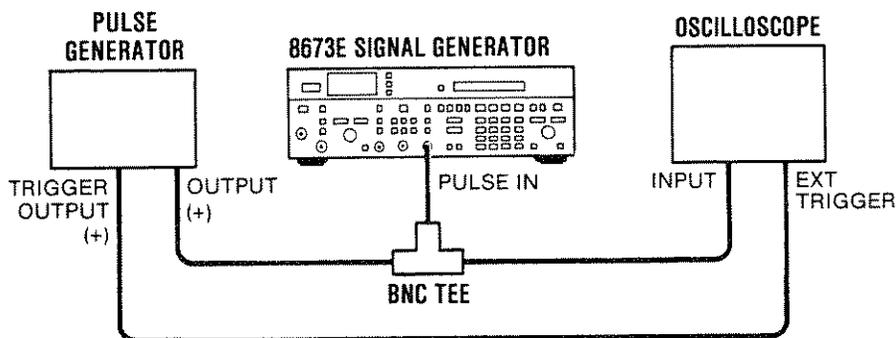

Figure 3-10. Pulse Modulation Functional Check Setup
36. Connect the pulse generator and oscilloscope to the Signal Generator as shown in Figure 3-10.